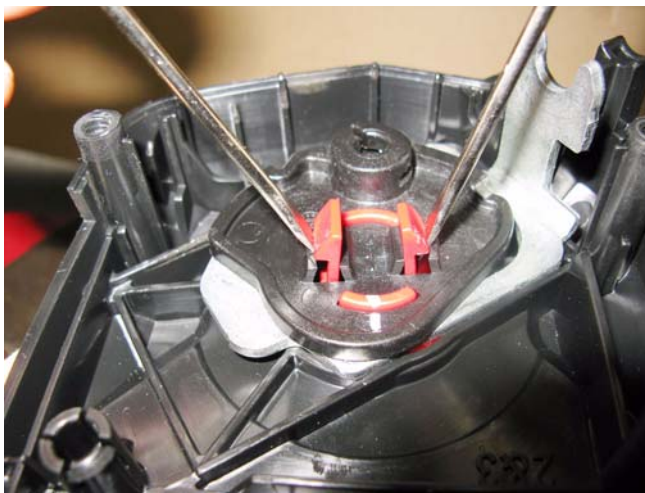

Figure 3.18
15. Use two small straight-blade screwdrivers to release the speed control actuator from the speed control lever. See Figure 3.18.